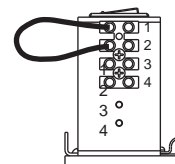

Figure 2
- D. Using a short jumper cable, jump terminals 1 and 2, see Fig. 2 below, to activate unit. When door reaches 20°, switch Breaker Switch to "OFF" position cutting power to the unit. Allow door to fully close (door may be manually pulled closed).
G. Flip Breaker Switch to "RESET" to turn power on. Jump terminals 1 and 2 (as shown in Fig. 2) to activate door. Note open position of the door. Allow door to close.